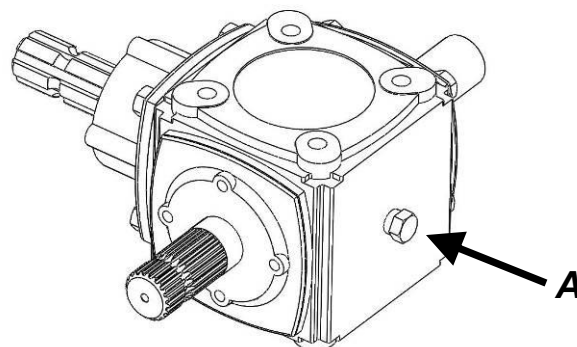

Figure 24
- ☞ The fan gearbox (mechanical drive Option) [Figure 24, **A**] used gear oil API GL5 (SAE 80W90) or synthetic oil (SAE 75W90). Capacity: 1 liter
Change the oil in the fan gear box [Figure 24] at the beginning of each planting season or application. Temperature changes during the offseason and can cause condensation insides of the gear box, thus reducing the efficiency of the lubrication.
To drain the oil, vacuum the lubricant from the housing of the gear box with a manual suction pump. Use the level plug to fill the gear box with gear oil API GL5 (SAE 80W90) or synthetic oil (SAE 75W90) [Figure 24, **A**], about 1 liter. Check the oil level every 50 hours; fill as needed.